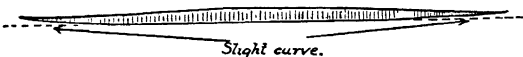

Fig. 20.—Diagram showing how each strut of the fan strutting should be slightly curved at each end if the guitar is to have an arched front.
i.e. they have a perfectly flat face) the struts will have to be slightly curved as shown in Fig. 20. Each strut must have an identical curve so that the face of the guitar becomes evenly arched when they are glued in position.